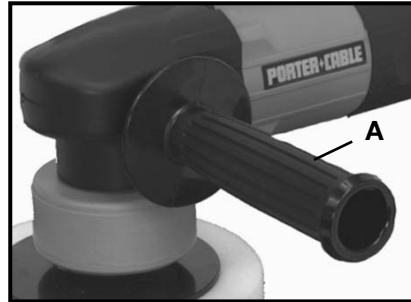

Fig. 1
An auxiliary handle (A), Fig. 1, is furnished with the tool. The auxiliary handle may be installed on either side of the front housing to facilitate either right-handed or left-handed operation.